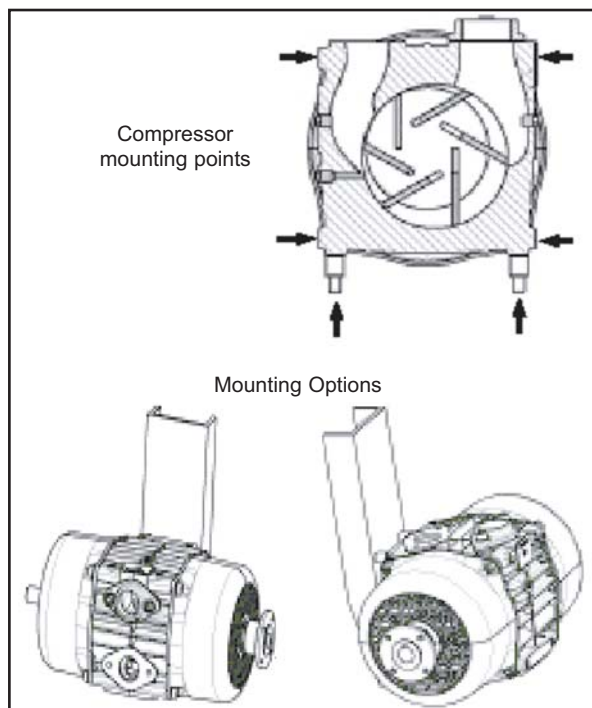

Figure 1 - Mounting
- The E140 compressor has mounting points on both sides of the body, as well as the base. The compressor can be mounted using the studs and spacers provided. See Figure 1. In addition to the standard mounting bracket, MOUVEX can supply brackets to suit existing installations currently using other makes of compressors.